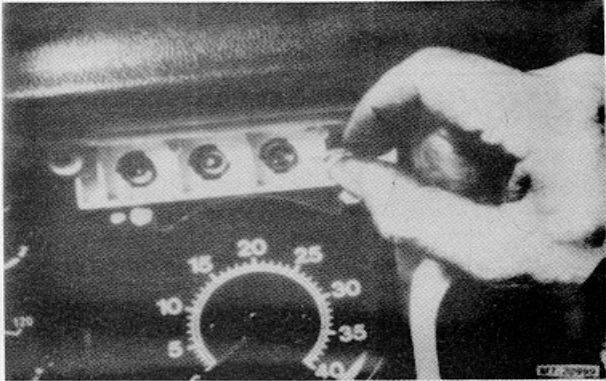

Fig. 12 Removing Bulb from face of Cluster
1. Remove instrument cluster cover screws (5) and remove cover to expose warning and indicator lights.
2. Grasp bulb and pull straight outward to remove plug-in type bulb from socket (Figure 12).